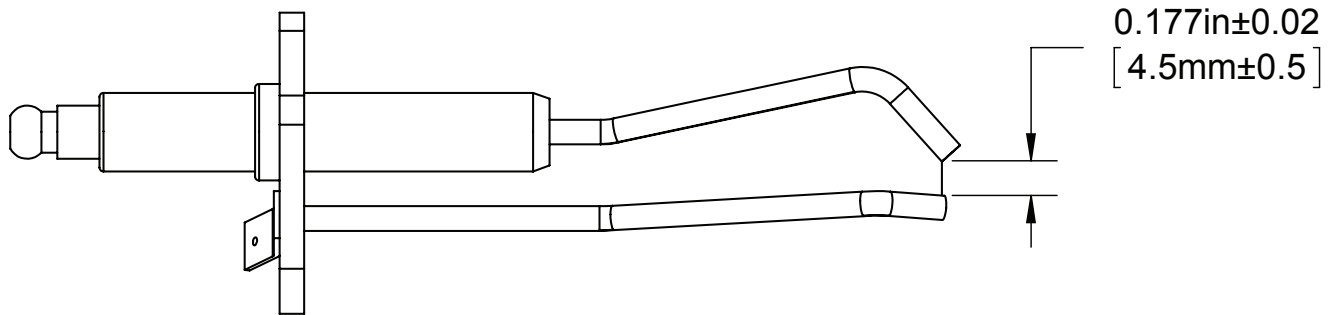

Figure 13.3: Igniter Gap
- n. **Inspect igniter electrode and flame sensor** for deposits. Clean any found with steel wool. Do not use sand paper or Emory cloth for this cleaning. Inspect the ceramic portion of both of these parts for cracks and replace if any are found. Verify that the igniter gap is within the range shown in Figure 13.3.